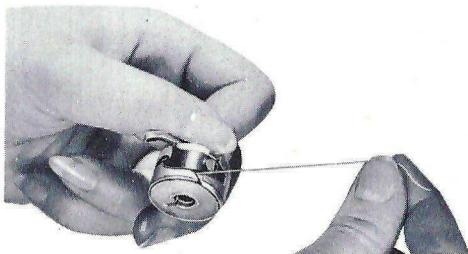
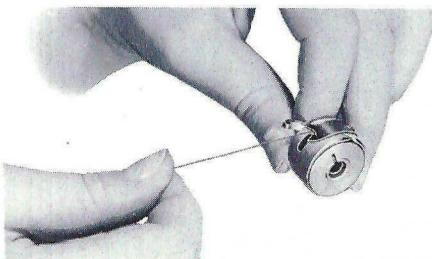

Fig. 15
Fig. 16
c. Insert bobbin into bobbin case, preventing bobbin from turning by holding latch with thumb of left hand, and with right hand pull thread into slot of bobbin case, as shown in Fig. 15; then draw it under the tension spring and up to the end of the tension spring (Fig. 16), leaving about four inches of loose thread.